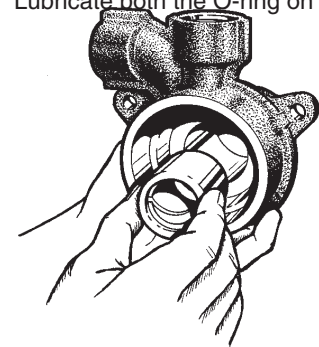

Figure 4-8
12. Install the cartridge bearing (#16A) into the pump body (#65) with the face grooves to the inside, refer to figure 4-8. Rotate the bearing until the locking plug hole in the bearing holder is visible through the tapped hole in the pump body. Install the O-ring (#7B) onto the bearing locking plug (#22A), and then install the bearing locking plug into the locking plug hole. If the bearing has been installed backwards, the hole will not become visible and the retaining plug will not fit.